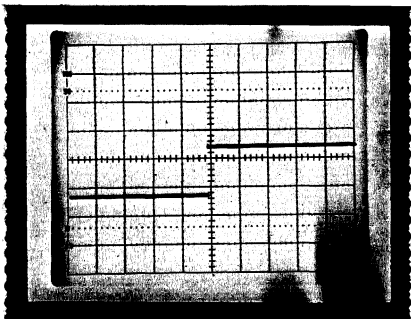

FIGURE 1
4. Apply power to system. With channel 1 observe Jack 9 and adjust P3 for 100 usec output. Reference Figure 1.